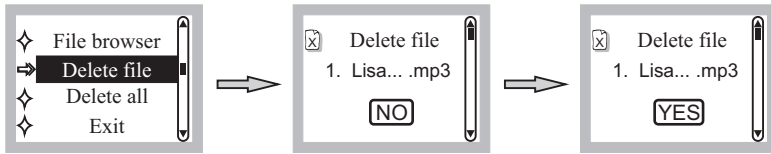

Fig. 26
- (2) Delete File: Press **▶||** to enter the “Delete file” screen. Press **◀◀** or **▶▶** to select “NO” or “YES”. Press **▶||** to confirm, Fig. 26.